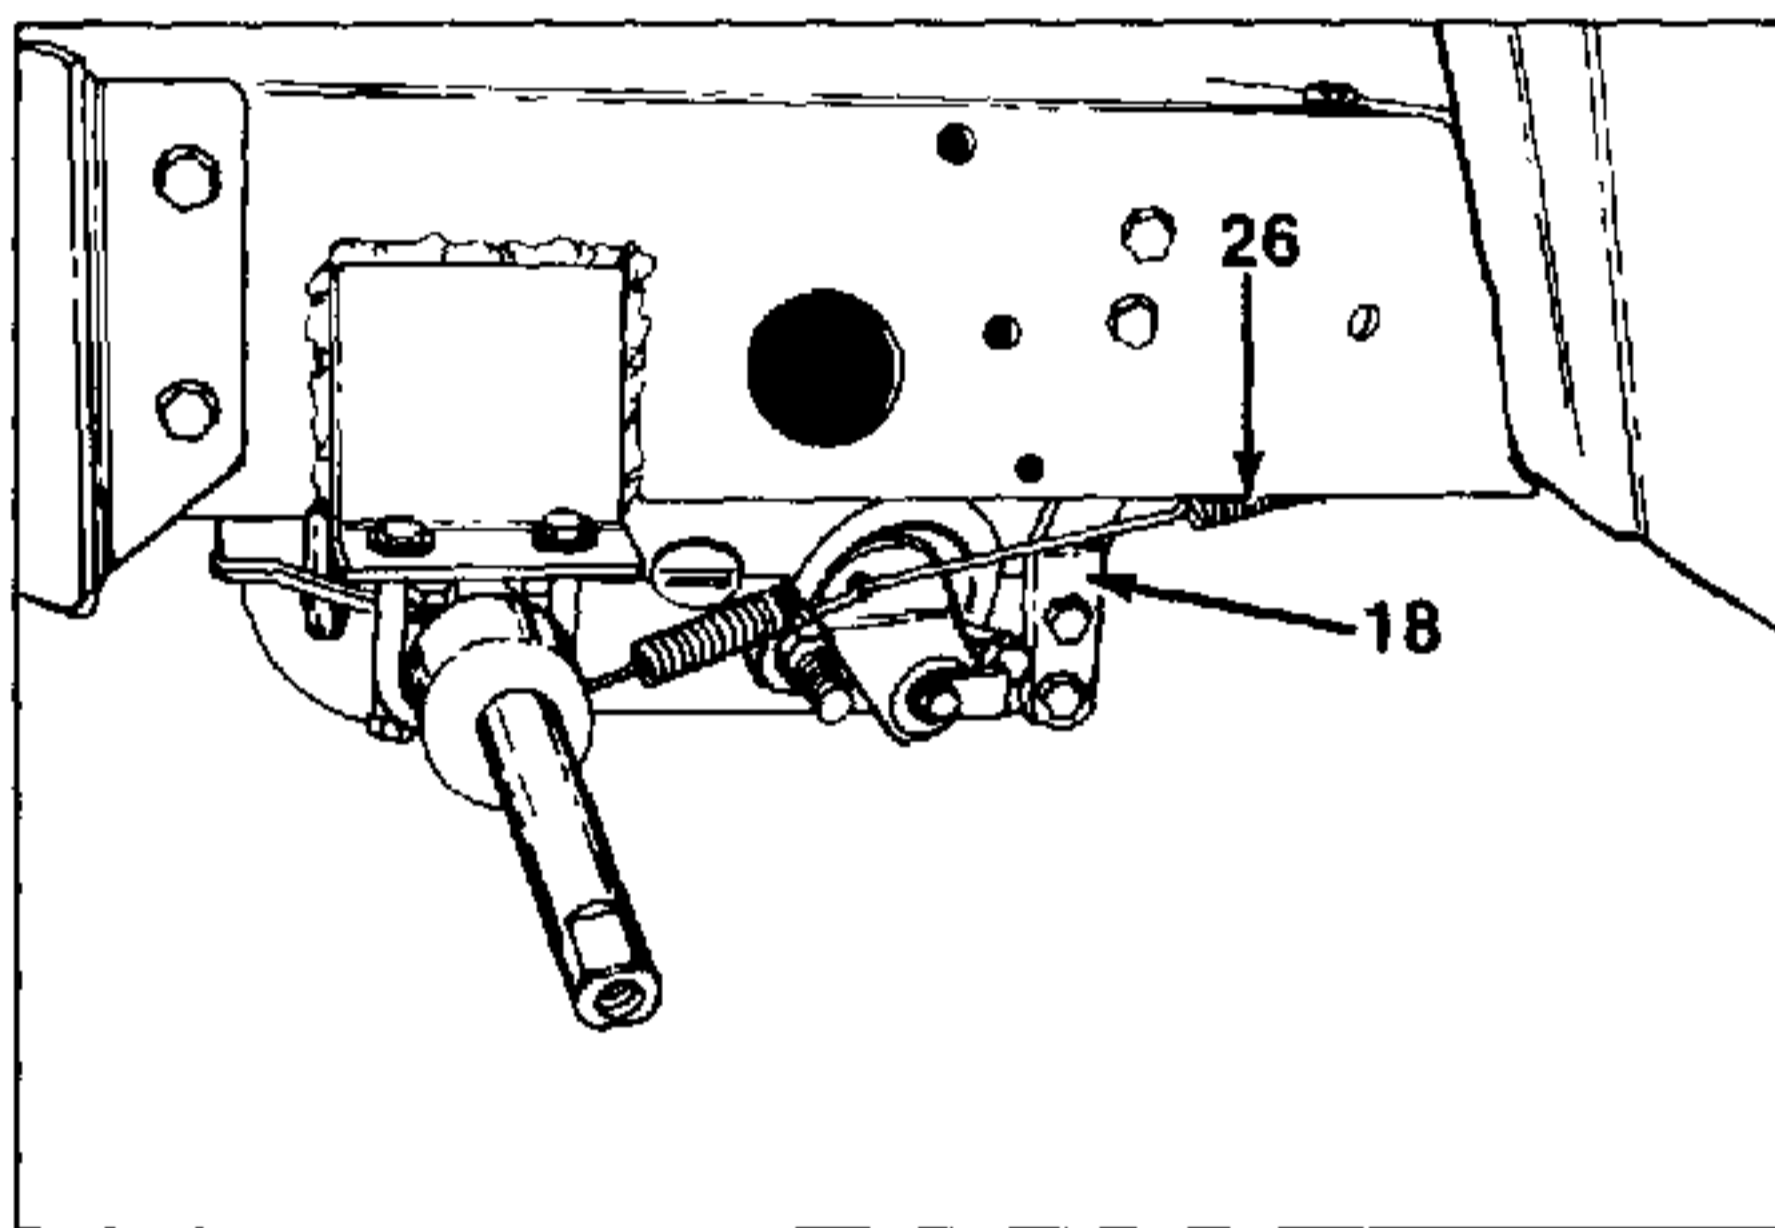

FIGURE 11.
15. Disengage parking brake lever. Disconnect brake rod tension spring (Ref. 26) from brake lever. See figure 11.